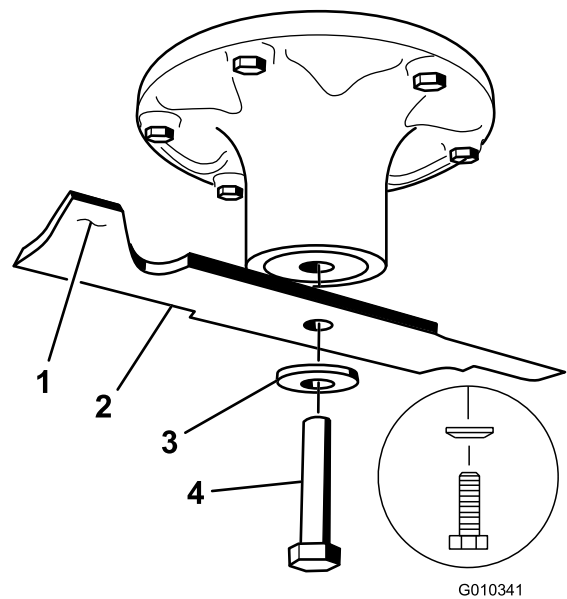
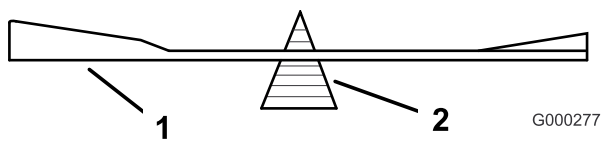

Figure 59
Figure 61
Hold the blade end using a rag or thickly-padded glove. Remove the blade bolt, curved washer, and blade from the spindle shaft (Figure 59).
2. Check the balance of the blade by putting it on a blade balancer (Figure 61). If the blade stays in a horizontal position, the blade is balanced and can be used. If the blade is not balanced, file some metal off the end of the sail area only (Figure 59). Repeat this procedure until the blade is balanced.
1. Install the blade onto the spindle shaft (Figure 59).
2. Install the spring disk and blade bolt. The spring disk cone must be installed toward the bolt head (Figure 59). Torque the blade bolt to 100-110 ft-lb (135-150 N-m).